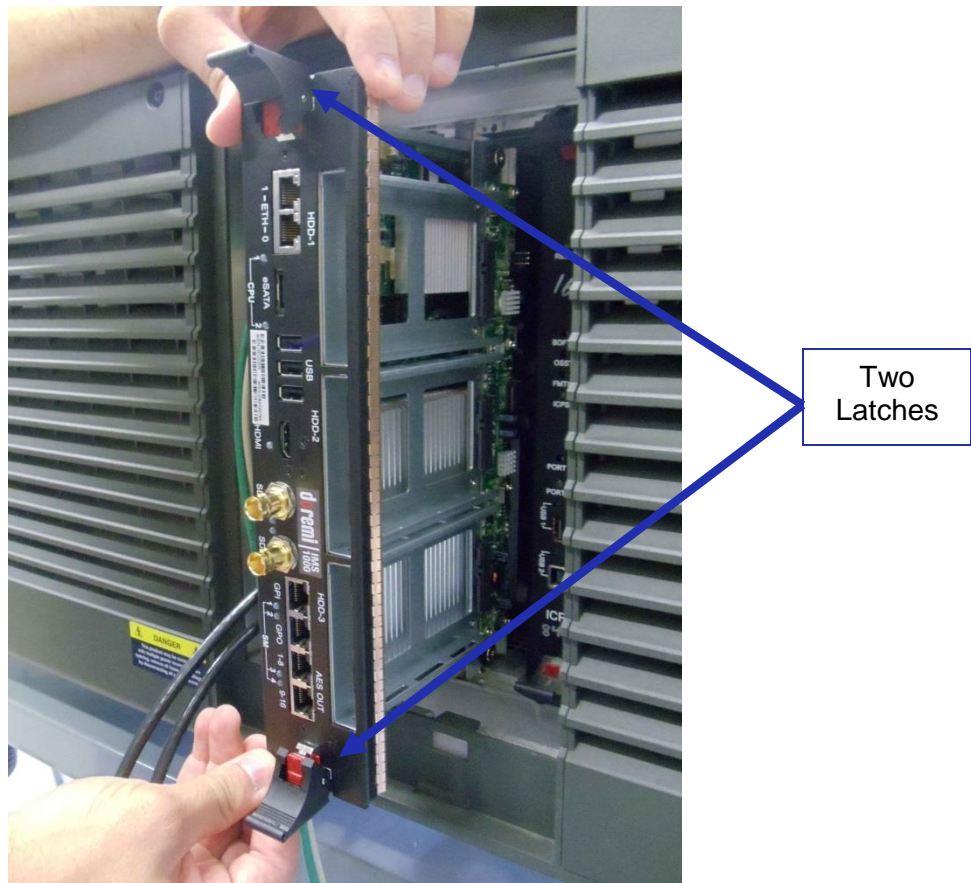

Figure 68: IMS100 Installation
- Close the two latches to secure the board (Figure 68).